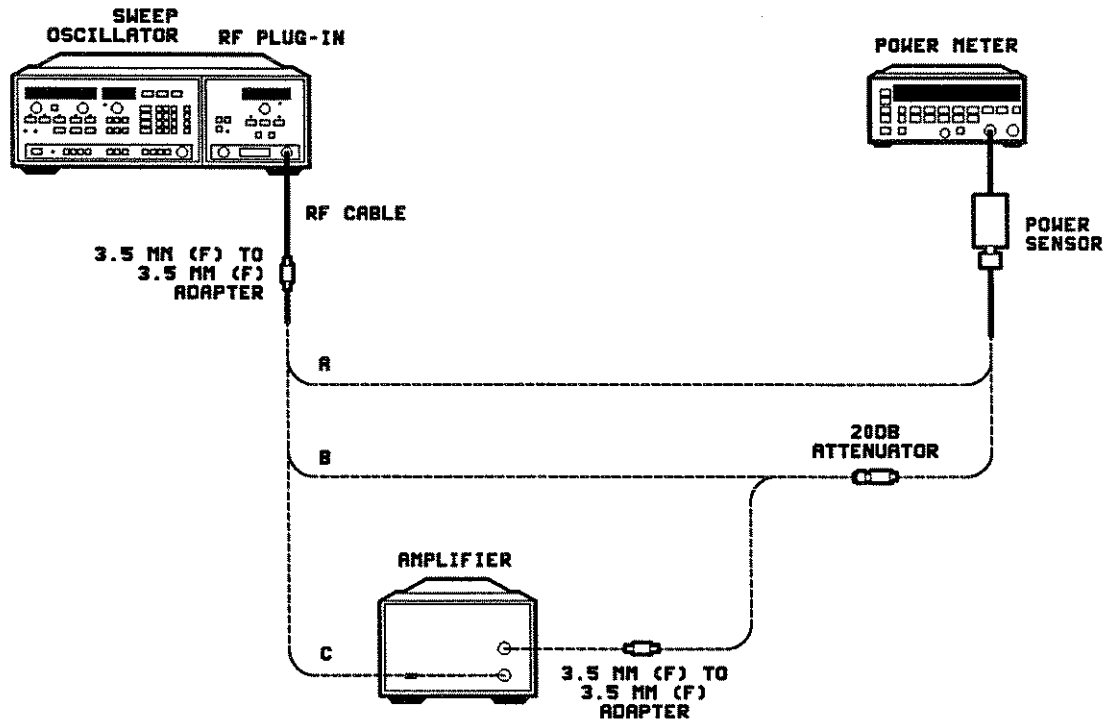

Figure 4-1. Maximum Output Power Test Setup
- a. Connect the equipment as shown in Figure 4-1, point A, with the power sensor connected to the 3.5 mm(f) adapter (without the amplifier, the second 3.5 mm(f) adapter, or the 20 dB attenuator).
- a. Connect the 20 dB attenuator between the adapter and the power sensor, as shown in Figure 4-1, point ③.
- a. Connect the equipment as shown in Figure 4-1, point ④, with the amplifier and the second 3.5 mm(f) adapter connected between the first 3.5 mm(f) adapter and the power sensor (you must use the same 20 dB attenuator as in the previous steps).